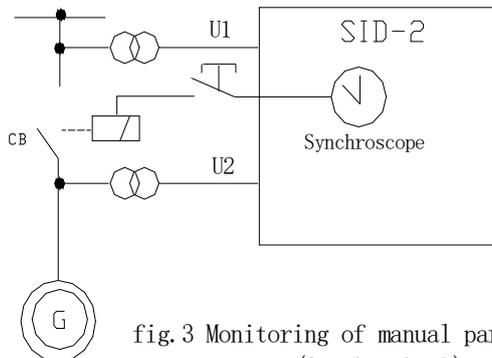

fig.3 Monitoring of manual paralleling (Synchrocheck)
- 3 Monitoring (Synchrocheck) of automatic or manual paralleling of power liens, generators and volatage-free lines (dead bus),see Fig 3 below